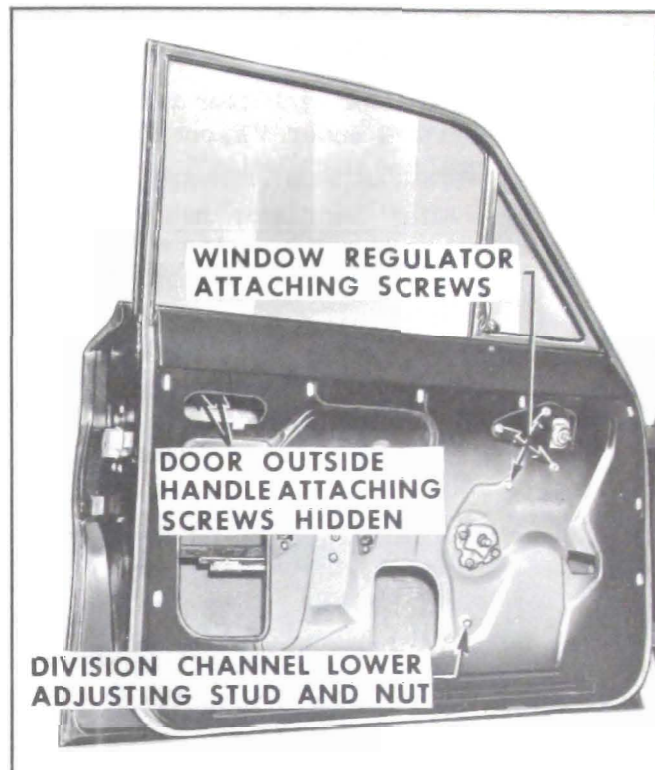

Figure 13-42—Window Regulator and Outside Handle Attachment
4. Remove window regulator attaching screws then work window regulator rearward to disengage arm from window lower sash channel cam and remove regulator from door. See Figure 13-42.
1. Raise door window. Remove door trim assembly and detach upper rear corner of inner panel water deflector sufficiently to gain access to door outside handle attaching screws. See Figure 13-42.